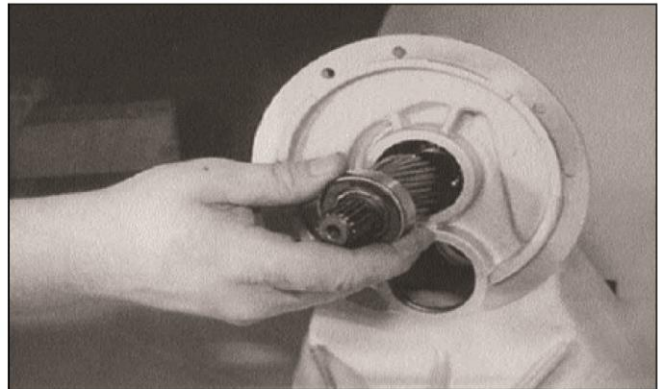

Figure 7-18
18. Pull input shaft assembly (12) from housing. The input shaft assembly should slide out easily. If resistance is encountered, a slide hammer may be required. See Figure 7-18.
4. Install input shaft (12). Bearings (13, 15) and shaft should slide easily into housing. If resistance is encountered, use a plastic or leather mallet to tap shaft into position. See Figure 7-18.